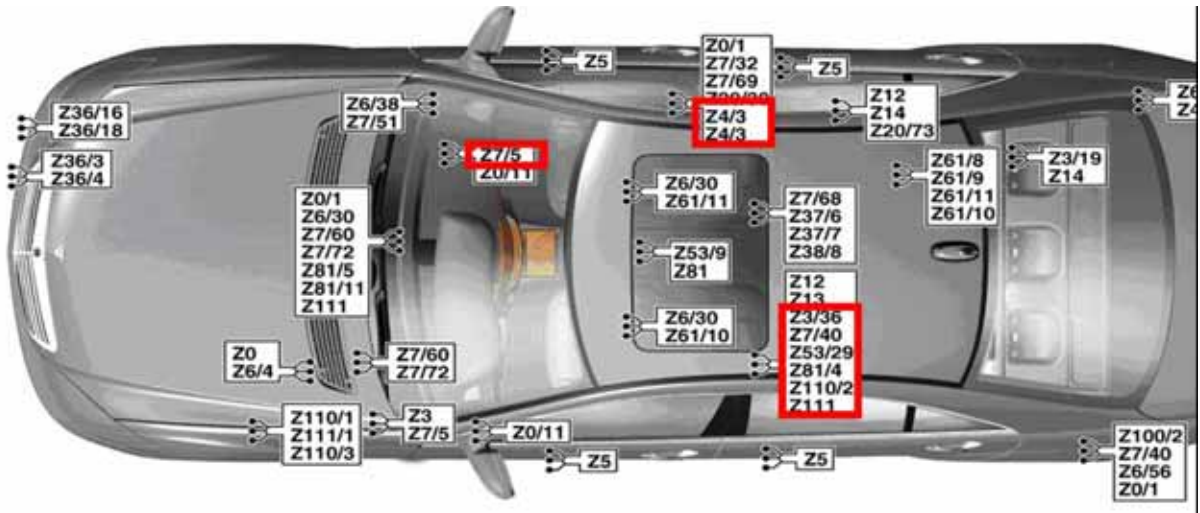

Figure 2
- Inspect the terminal points (Figure 2) before checking the ground points, connectors, and CAN hubs: If there is visible corrosion of the terminal points, it is not necessary to check the other points. However, it is necessary to exchange the main wiring harness for the frame floor assembly. The tape on the terminal points should be removed during the checking procedure. If no moisture and/or corrosion are detectable, only replace the tape.
2. Clean sealing seams in the rear wheelwell (arrows, Figure 2) over a large area with silicone remover and reseal. In particular seal the place of the joint of the wheelhouse panel to the side panel fold. The location of the leak can also be up to ten centimeters above the transverse seam seal.